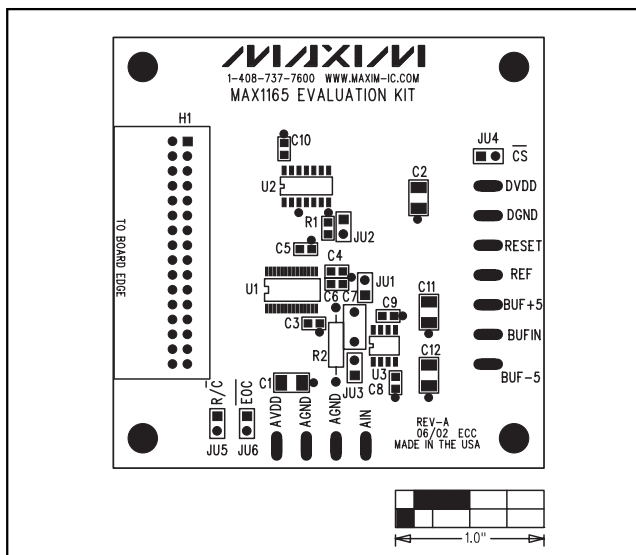

Figure 2. MAX1165 EV Kit Component Placement Guide—Component Side
- 4) Configure the pattern generator to produce the appropriate read/convert (R/C) and conversion start (CS) waveforms. Refer to Figure 2 in the MAX1165 data sheet.